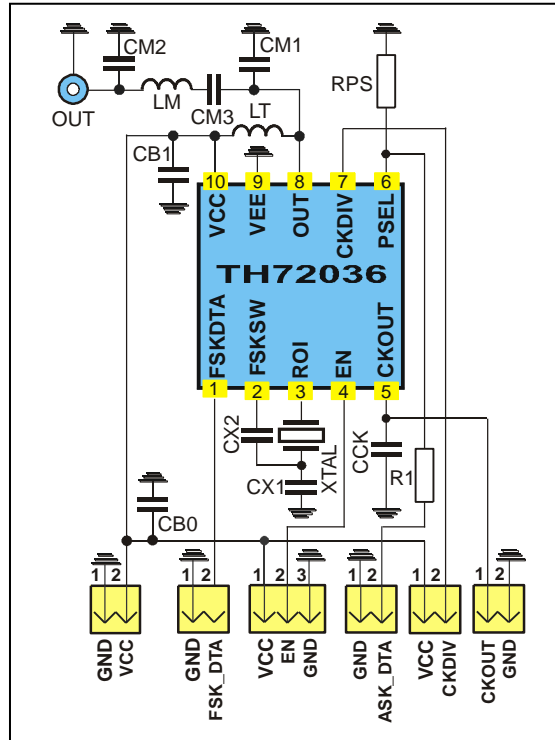

Fig. 6: Test circuit for FSK and ASK with 50 Ω matching network
typical values at $T_A = 23\text{ }^\circ\text{C}$ and $V_{CC} = 3\text{ V}$; test circuit shown in Fig. 6, $f_c = 868.3\text{MHz}$
typical values at $T_A = 23\text{ }^\circ\text{C}$ and $V_{CC} = 3\text{ V}$; test circuit shown in Fig. 6
5.1. Test circuit component list to Fig. 6